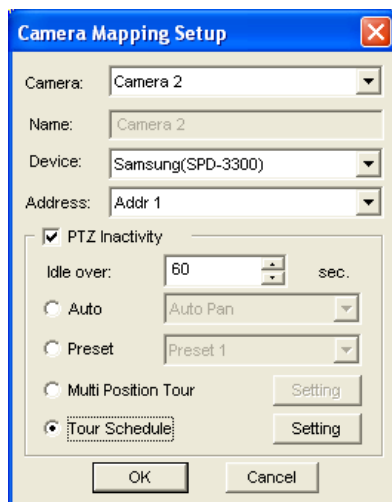

Figure 2-18
**Note:** It is required to set more than one span so that a specified camera behavior will only run in the defined time frame. Otherwise, you can select the **Auto**, **Preset** or **Multi Position Tour** option (see Figure 2-18) to configure the idle protection.